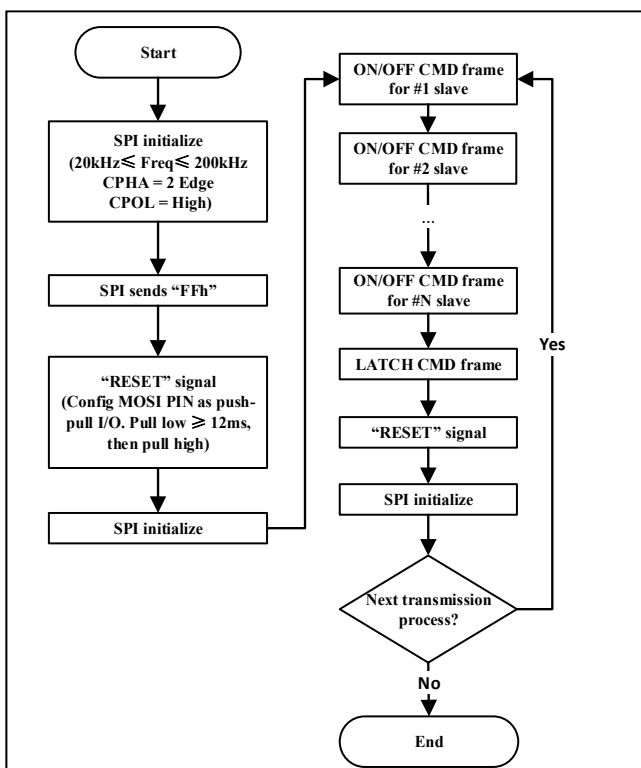

Figure 52 Flowchart “LATCH” Follows with “RESET”
After SPI interface initialization, the MOSI line may be in a logic low state. Please force the SPI to send a "FFh" data after to get a logic high for the onewire serial BUS idle state, See Figure 52 and 53 program flow chart.
- 1) Each “LATCH” command frame should be followed with a “RESET” signal which resets the onewire serial BUS and gets it ready for the next transmission process. As Figure 52 program flowchart.